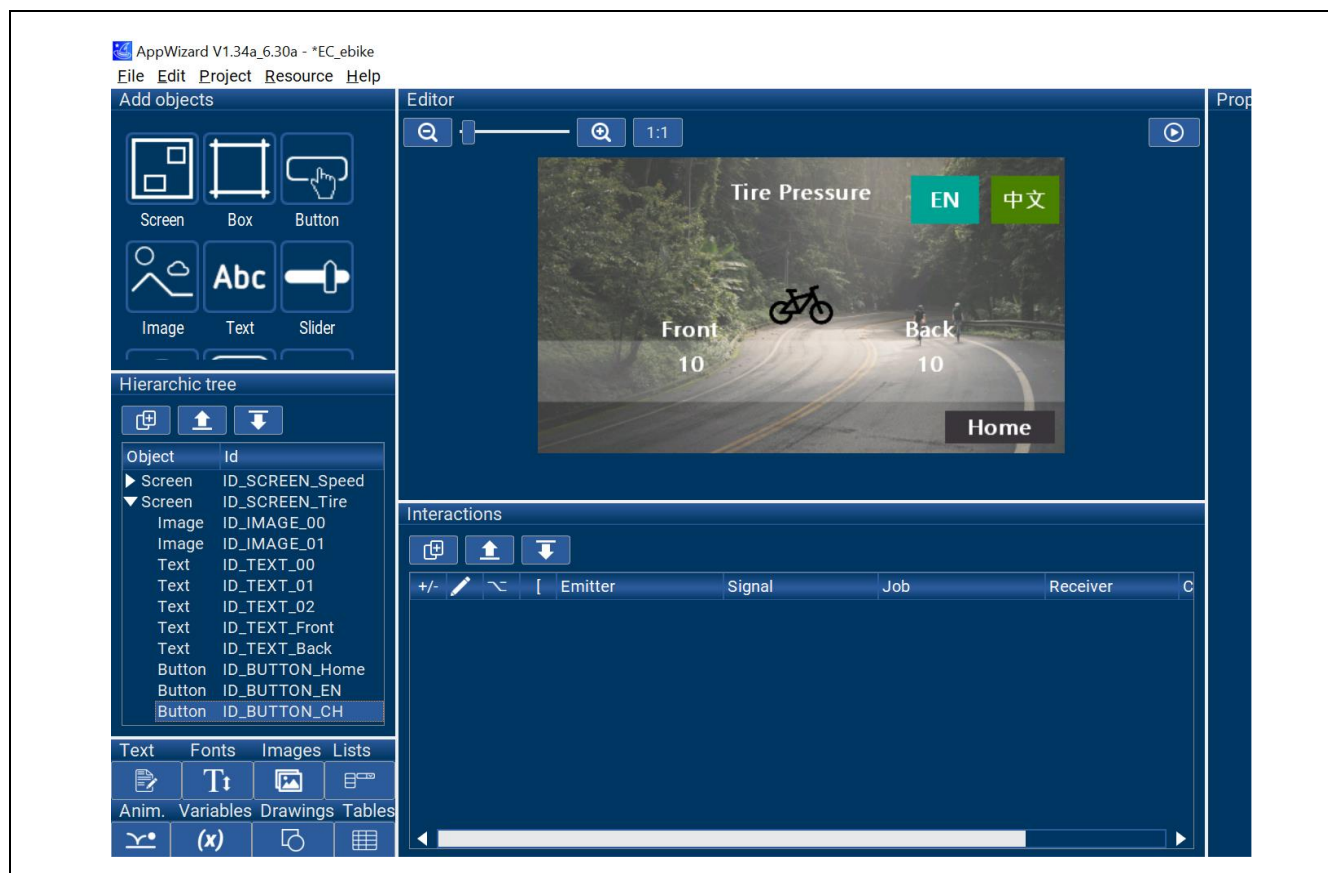

Figure 1-51 Using Button Object to Add a Language Switch Button
29. Follow the step 16 to add language switch buttons for "中文" (Chinese) and "EN" (English). After completion, the result should be shown as Figure 1-51.